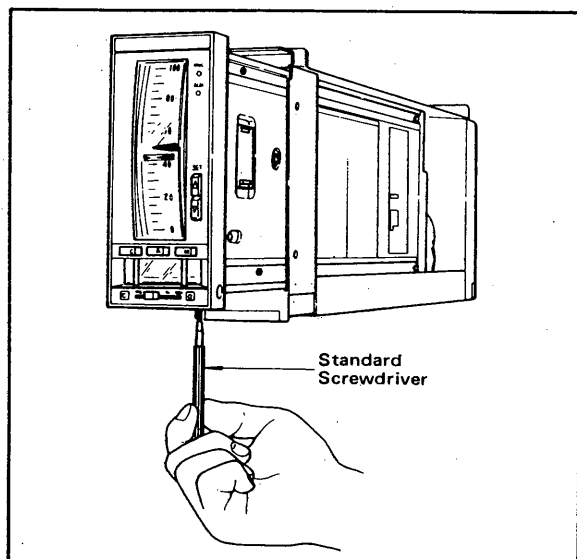

Figure 6-4. Zero Adjustment of Output Indicator.
- (3) When the reading is outside of tolerance, adjust the zero adjustment screw so the output pointer points to the major scale graduation in the center of the scale. (Figure 6-4).
- (4) Next, set the output pointer at the leftmost major scale graduation, at the second major scale graduation from the left, at the second major scale graduation from the right, and at the rightmost major scale graduation. Verify that the ammeter reads 4 mA, 8 mA, 16 mA, and 20 mA respectively. (The tolerance is $\pm 2.5\%$.)